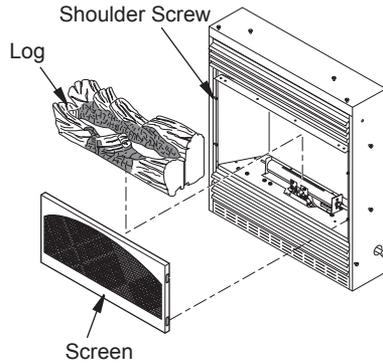

Figure 34 - Installing Log and Screen
1. Remove log packaging material and discard packaging. Gently place log over the burner (see Figure 34). Do not allow log to contact flame. If flame contacts log, soot will be created.